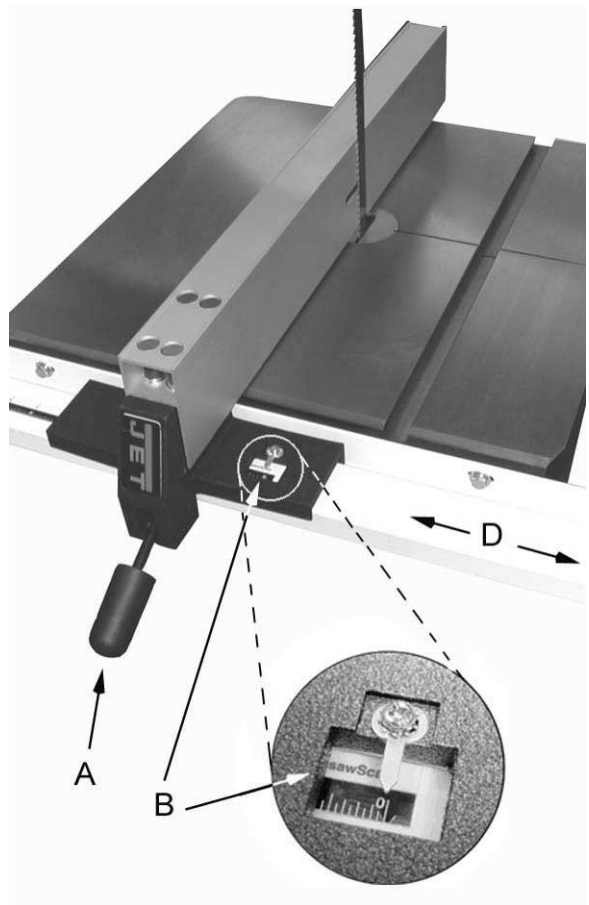

Figure 10
5. Move the fence assembly to the other side of the blade as shown in Figure 10 so that the *pointer* (B, Fig. 10) on the fence body points to zero on the scale. Lock the fence by pushing the *handle* (A, Fig. 10) down.
6. Move the guide rail (D, Fig. 10) *with the locked fence* until the fence is flush against the blade (C, Fig. 10). Do not unlock the fence to perform this. Move the fence and guide rail together when establishing the zero point.